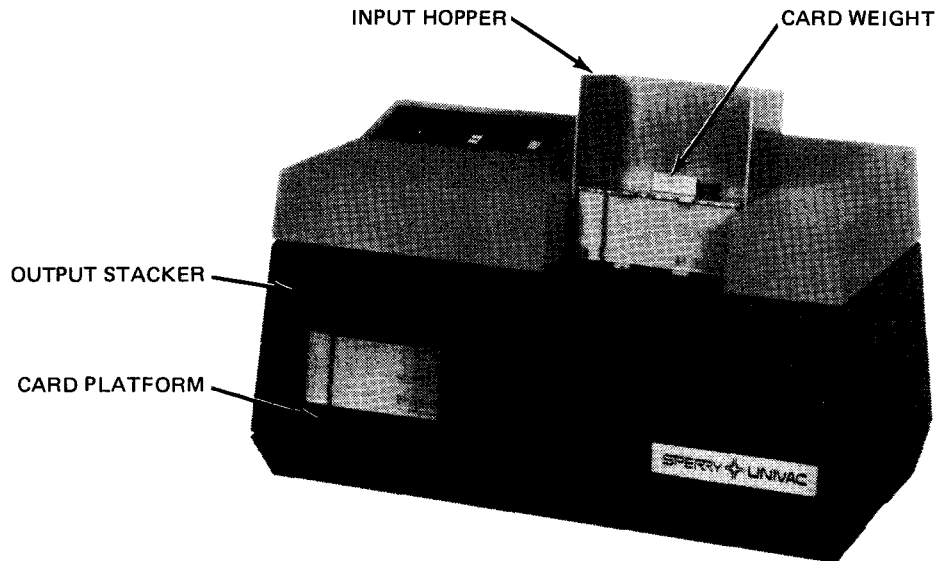

Figure 6—22. 0719 Card Reader, Input Hopper and Output Stacker
1. Remove the card weight (Figure 6—22) from the input hopper.
1. While maintaining slight pressure on card backs, hold spring-loaded card platform (Figure 6—22) down.